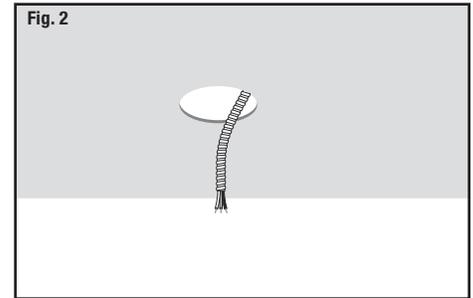

Fig. 2
1. Provide electrical service according to your local electrical code for a suitable junction box. Supply wire insulation must be rated for at least 90°C (Fig. 2).